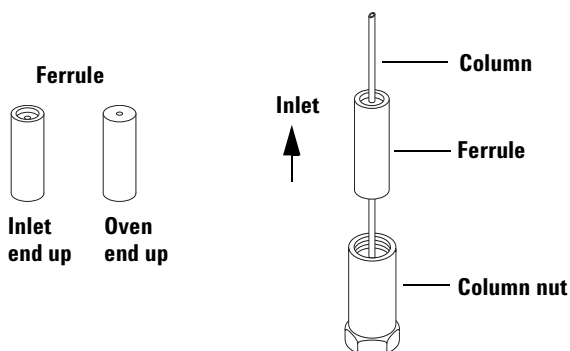

Figure 62 Placing the column nut and ferrule on the column
- 6 Slide a column nut and standard ferrule over the inlet end of the column. The inlet end of the ferrule should face up (toward the inlet). The bottom of the ferrule should be in front of the column nut. See Figure 62.